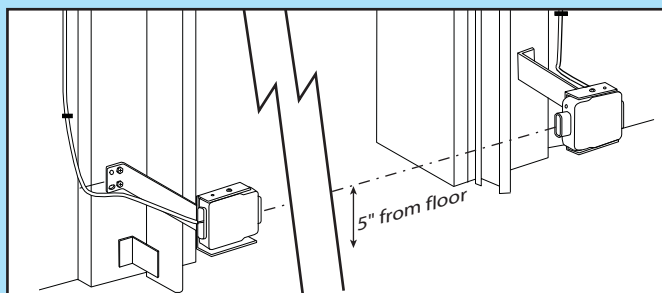

FIG. 5-4 Check Safety Beam Alignment.
Check Safety Beam alignment (Fig. 5-4).
- Insure that tops of lenses are between 5" - 6" above the floor (Fig. 5-4). The brackets are flexible, and can be adjusted slightly if needed.